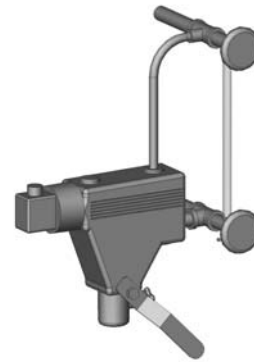

Figure 6.6: Gauge Glass & Low Water Cut-Off Installation
- a. **Float Type:** Install the float type low water cut-off (if provided) in conjunction with the gauge glass as shown in Figure 6.6.
- a. Install the gauge glass provided into two 1/2" tappings on the right side of the boiler. If a float type low water cut-off is used, it will be piped into these same fittings. See Figure 6.6 and 6.7 for examples of this installation.